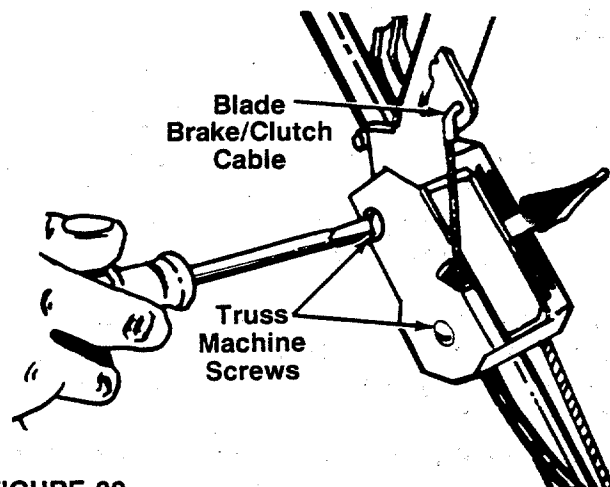

FIGURE 20.
5. Remove two truss machine screws on the inside of the control housing as shown in figure 20.